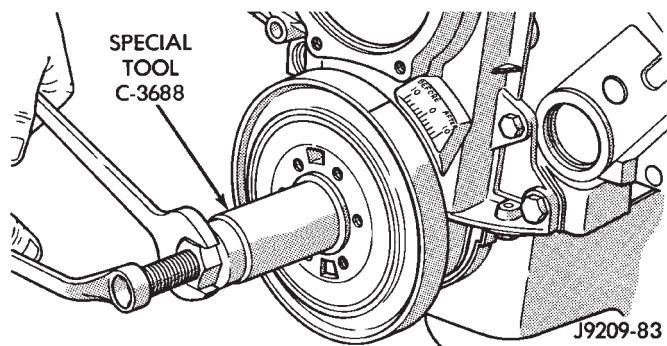

Fig. 2 Installing Vibration Damper
(1) Position the vibration damper onto the crankshaft.
(2) Place installing tool, part of Puller Tool Set C-3688 in position and press the vibration damper onto the crankshaft (Fig. 2).